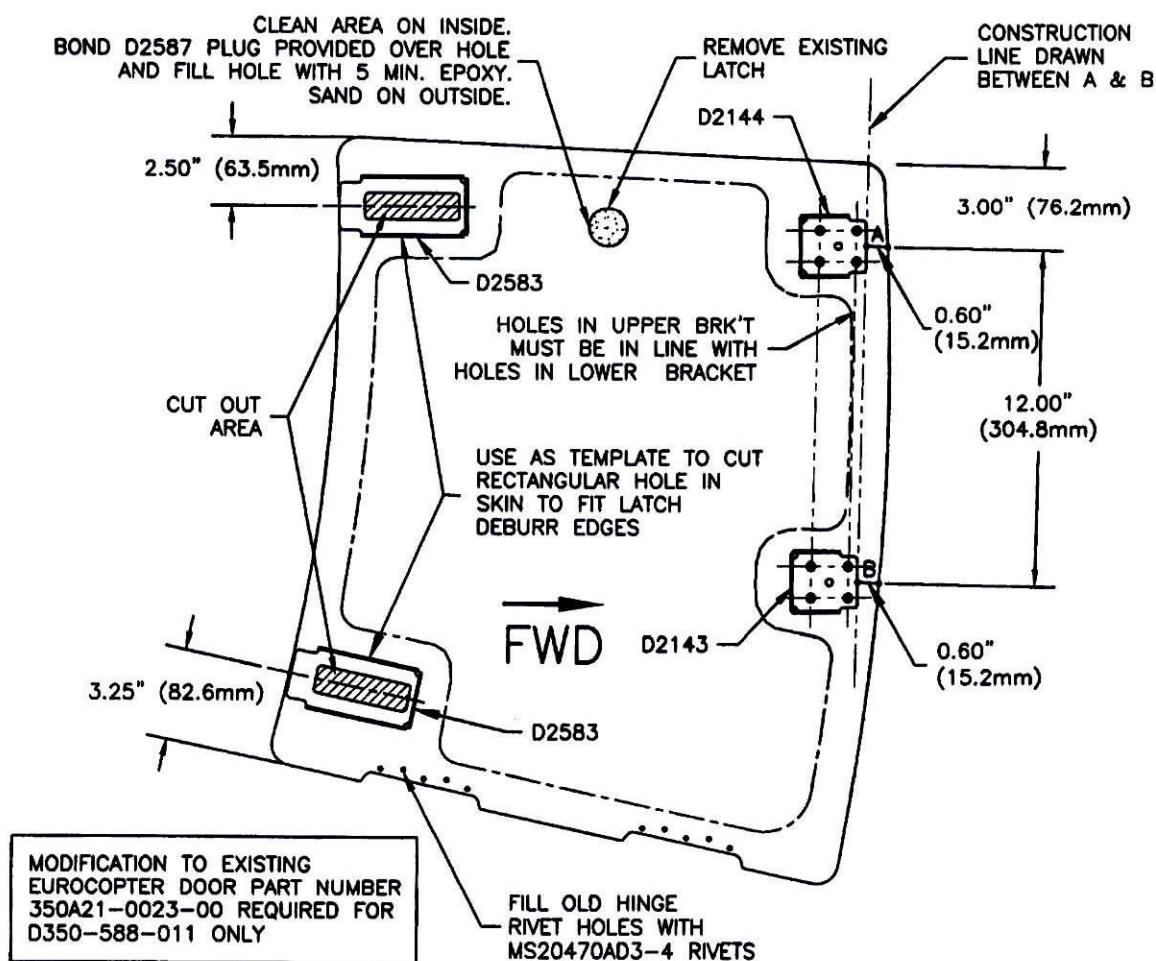

Figure 6: Baggage Door Inside View
Use Figures 6 to 7 when installing the D350-588-011 Kit.
4. Draw construction line as shown in Figure 6 to locate D2143/D2144 brackets.